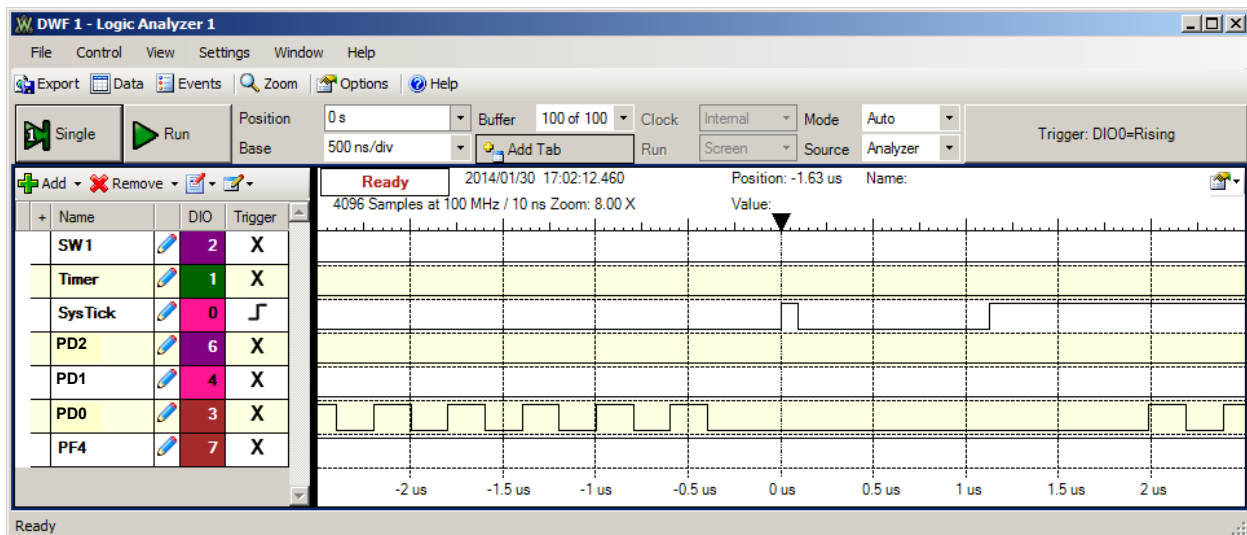

Figure 2.4. Logic analyzer output showing the thread-switch time. You may use any free pins for profile.
1.3) Measure the context/thread switch overhead of the OS kernel. Figure 2.4 shows the logic analyzer occurring with only one active thread running (using *ThreadmainCS* provided in the starter code). If you define the thread-switch time as the lost time of the PD0 toggling, this OS requires about 2.1 μ s to switch threads.